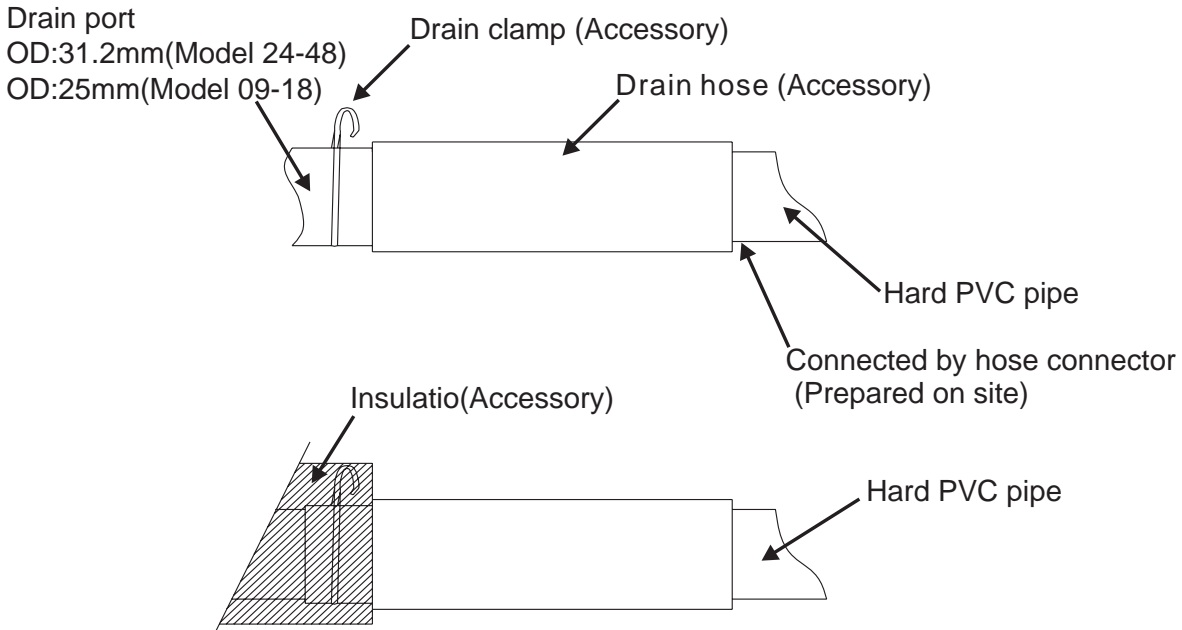

Fig.12
3. Insert the drain hose until it connects the drain port very well, and then secure it tightly with the hose clamp(Prepared on site)( Fig.12)
4. After checking the drainage, wrap the drain hose with the insulation and clamp. (Prepared on site)( Fig.12)